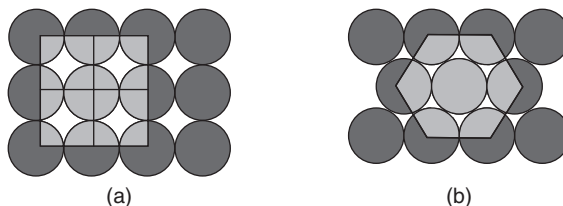

Figure 9 (a) Square close packing, (b) hexagonal close packing.
1. **Square close packing:** It is obtained by placing the second row of spheres directly on top of the first row. In such an arrangement, each sphere or atom has four other atoms as its closest neighbors [Figure 9(a)].
2. **Hexagonal close packing:** It is obtained by placing the second row of spheres in the interstices or depressions of the first-row spheres as shown in Figure 9(b). Each sphere or atom has six closest neighbors.